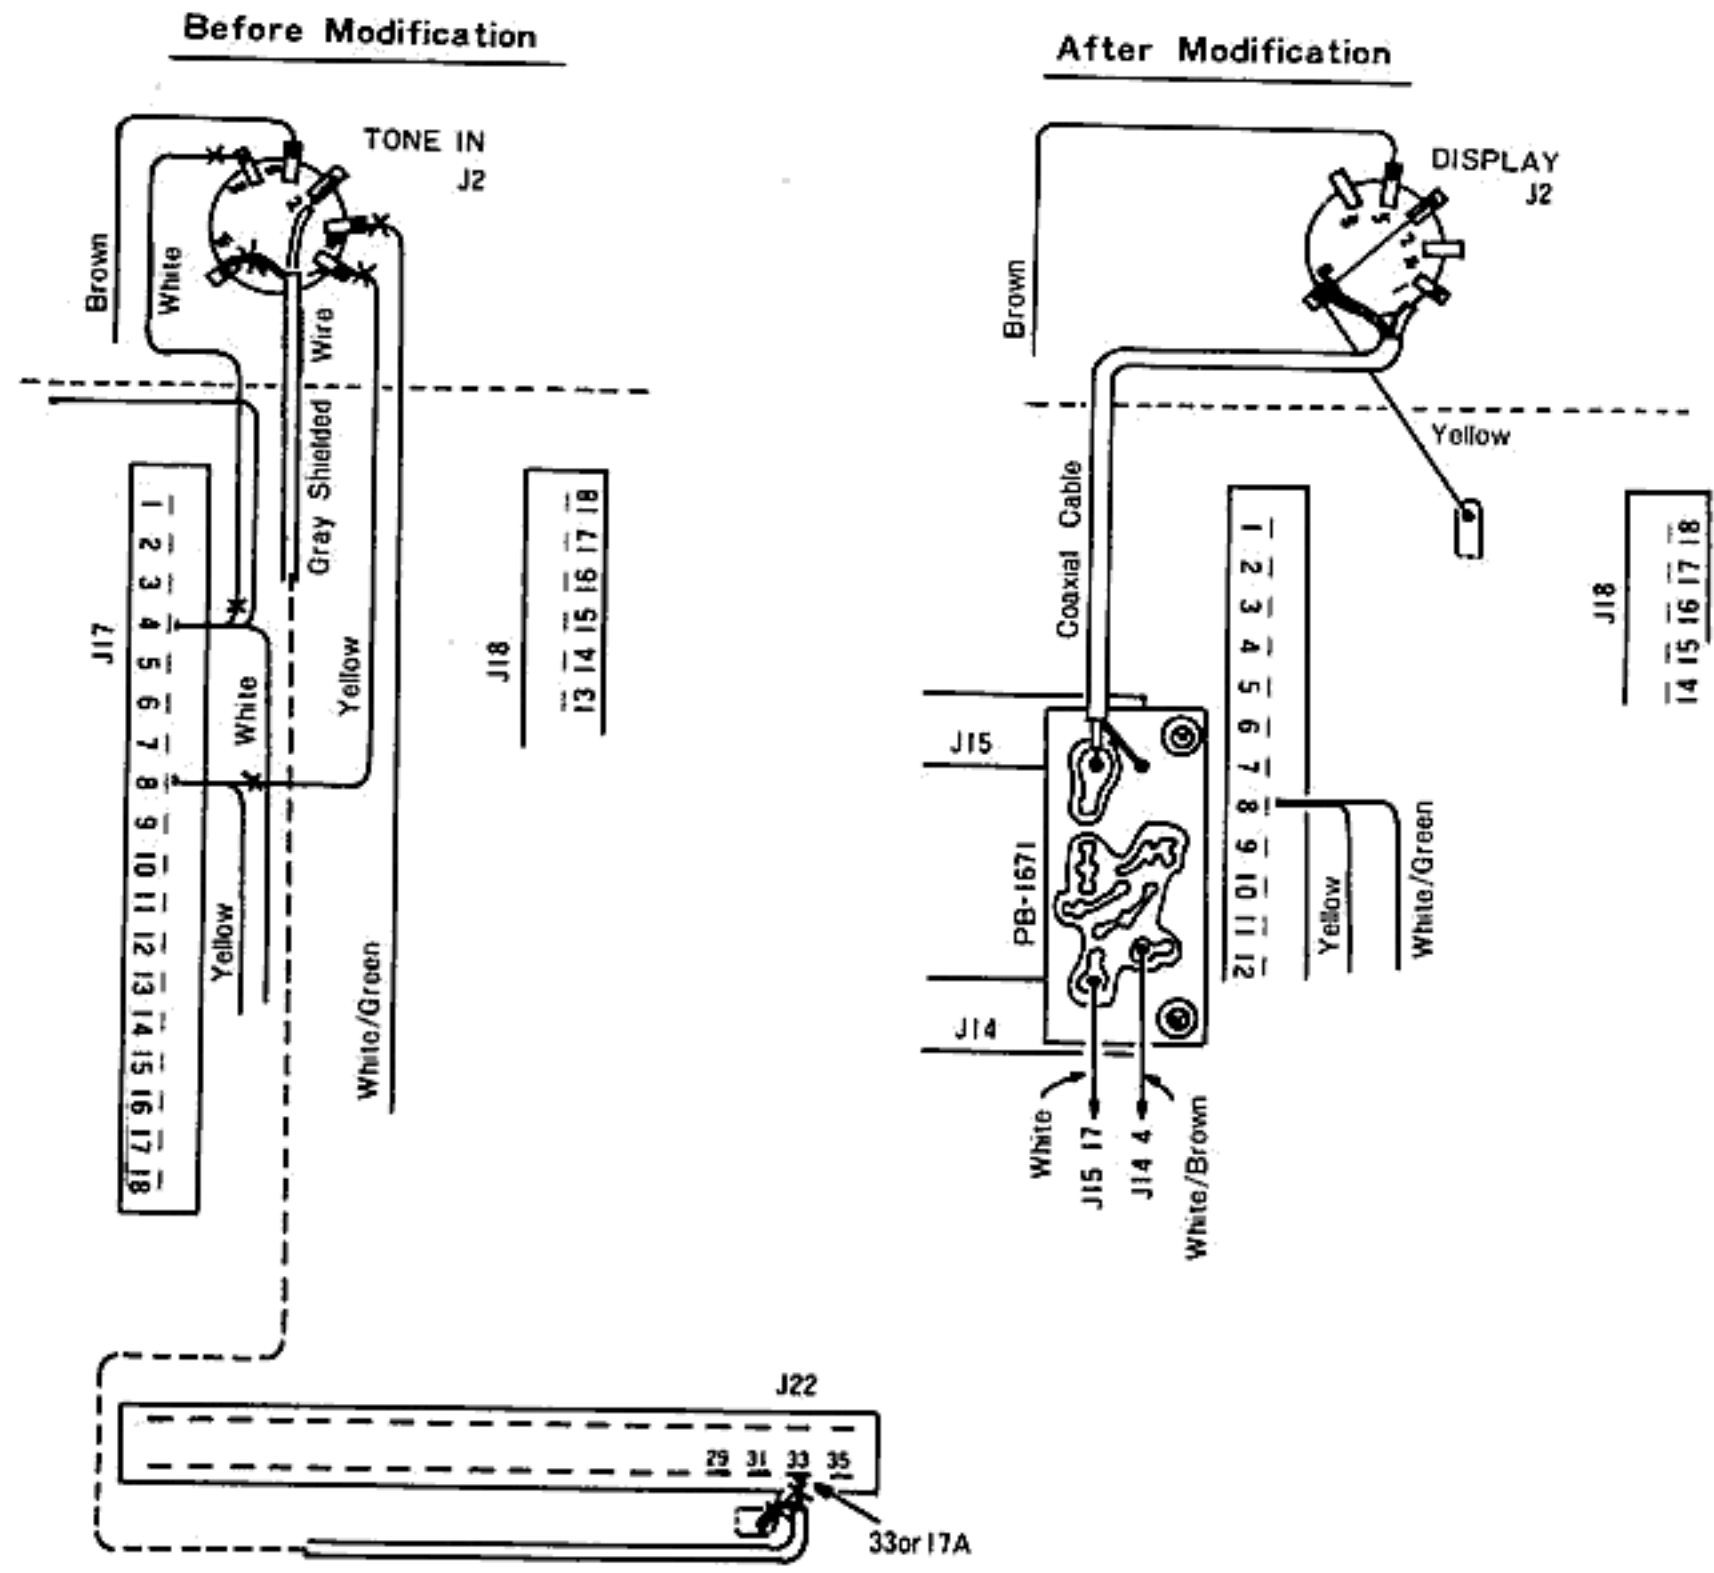

Fig. 3
- (4) Locate the TONE IN jack, J2, on the rear panel. Remove the white wire from Pin 3 of J2 and Pin 4 of J17. Refer to Figure 3. Also remove the yellow wire from Pin 1 of J2 and Pin 8 of J17. Unsolder the white/green wire from Pin 4 of J2 and solder this wire to Pin 8 of J17.
- (5) Remove the grey shielded wire from Pin 2 of J2 and Pin 33 (17A) of J22.
- (6) Connect Pin E of J2 to the ground terminal between J17 and J18 with the yellow wire removed after step (4). Solder both ends.
- (7) Solder the inner conductor of the coax cable supplied to Pin 1 of J2 and its outer conductor (shield) to Pin E of J2.
- (8) Solder the coax cable, white and white/brown wires to the printed board PB-1671 as illustrated in Figure 3.
- (9) Glue the insulator board to the inside surface of the bottom cover where the installed printed board PB-1671 will touch.
- (10) Adhere the "DISPLAY" seal to the rear panel at the TONE IN mark.